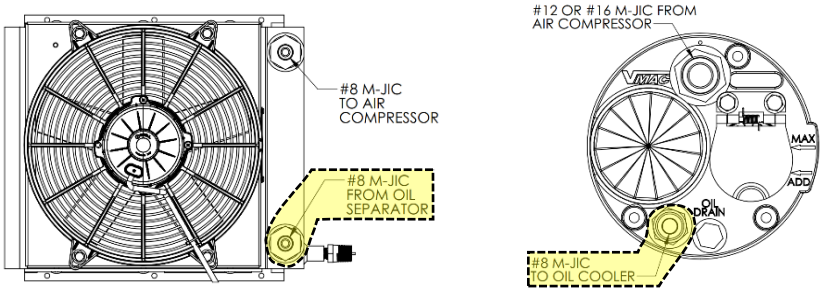

Figure 2 – Hot Oil Line Connection
- Connect the oil line from the separator tank (hot oil) located at the bottom of the oil separator tank to the “Oil Flow In” fitting located on the oil cooler (Figure 2). Use a second wrench to support the fitting on the component and prevent it from spinning when tightening. The recommended hose size is #8 (1/2”) hose.